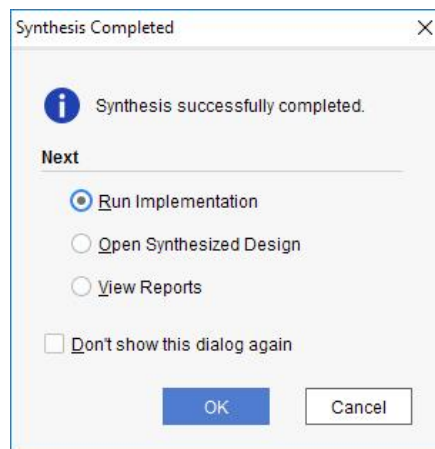

Figure 18
5. In the end, a new window opens stating that the synthesis was successfully completed and showing the next steps (Figure 18). This type of windows appears after completing each one of the implementation steps. We may disable these windows by checking **Don't show this dialog again**. Notice that the options we see in the window are always available in the **Flow Navigator** window